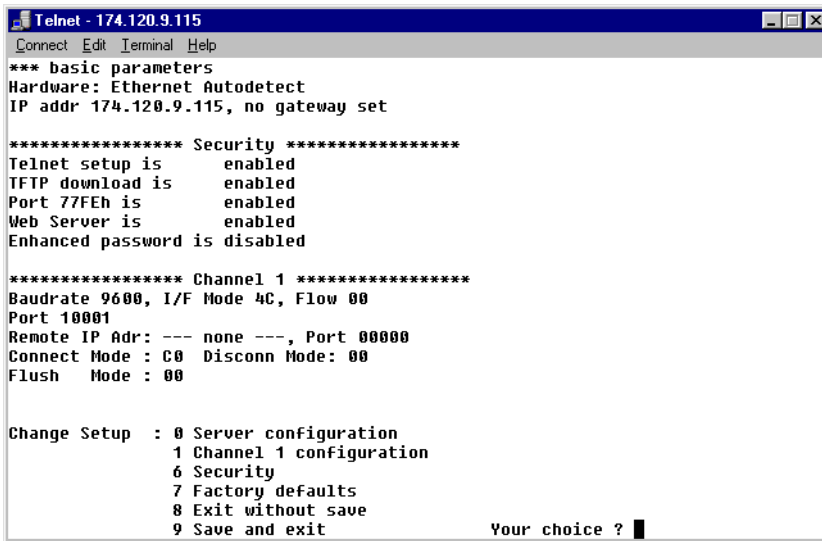

Figure 29: Telnet Sign-on Screen
6. Press <Enter> to go into the LAN-505 Setup mode as soon as the Telnet sign-on screen appears (see Figure 29). There is a two to three second delay in which you must press <Enter> before the Telnet session automatically closes. If the Telnet session closes before you enter Setup mode (if a "Connection to host lost" message appears), simply click the box to clear the connection lost message and repeat the Telnet connection command in Step 5.